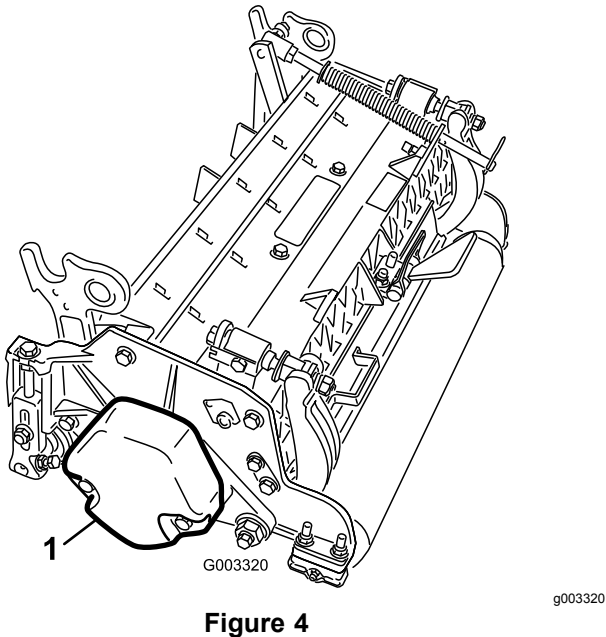

Figure 4
- Make sure that the counterweight (Figure 4) is installed to the proper end of each cutting unit as described in the *Operator's Manual* for the cutting units.